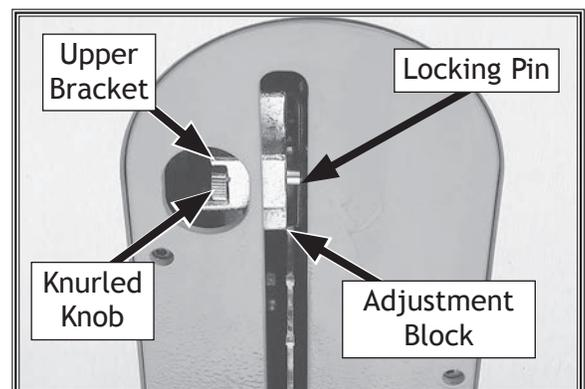

Figure 51. Knurled knob used to secure spreader.
3. Slide knurled knob out (see **Figure 51**) and rotate it so it engages upper bracket.